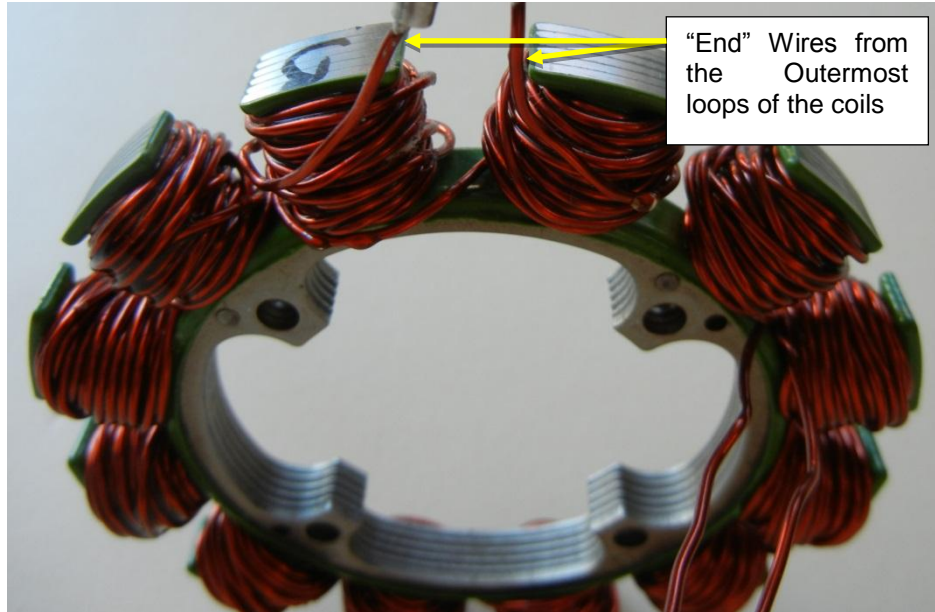
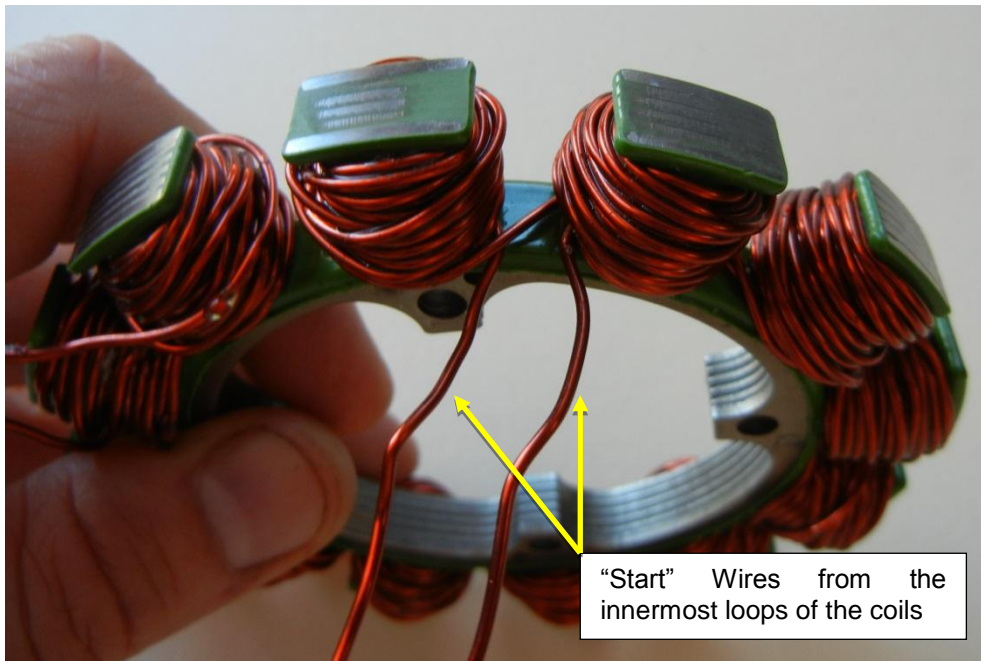

Figure 5 – Two "End" Wires
Figure 6 – Two "Start" Wires
- Identify the "Start" and "End" of each wire. "Start" wires are those leading to the innermost loops of the coils, "End" wires are those leading to the outermost loops of the coils: see Figure 5 and Figure 6.